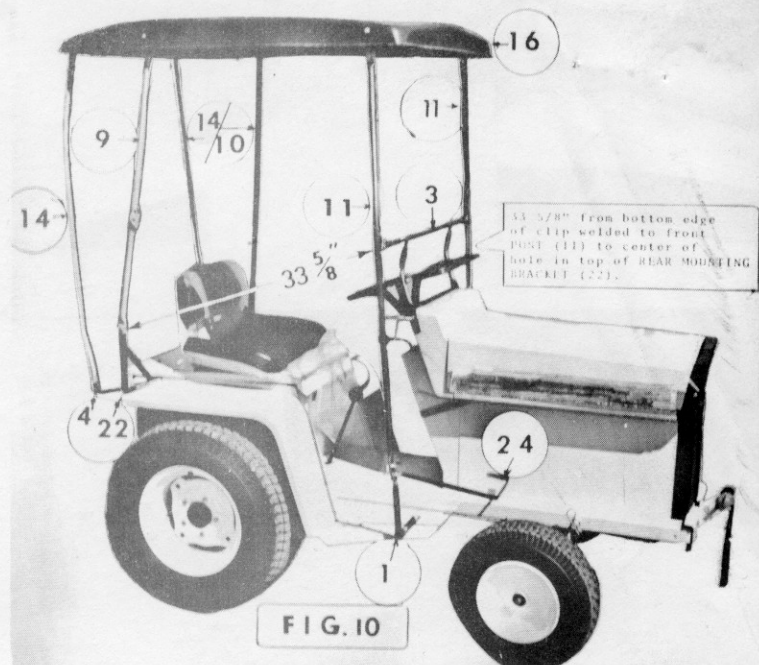

FIG. 10
- A. Use "C" clamps to temporarily attach REAR MOUNTING BRACKETS (22) to rear, top side of fenders----about 3/4" from seat deck. They should be "C" clamped so the top hole in each of them is approximately 33 5/8" from bottom edge of clip welded to each FRONT CORNER POST (11, shown in FIG. 10).
- B. Drill two 9/32" holes through each fender, using the holes in the REAR MOUNTING BRACKETS (22) as proper location for holes to be drilled.
- C. From the top side, insert 1/4" x 3/4" bolts downward through REAR CURTAIN BOXING POST EXTENSIONS (4) and/or through REAR MOUNTING BRACKETS (22), through fenders, add 1/4" flat washers